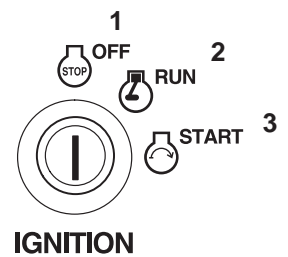

Figure 17
3. Let the engine idle for 60 seconds (Fig. 17).
4. Turn the ignition key to off (Fig. 17).